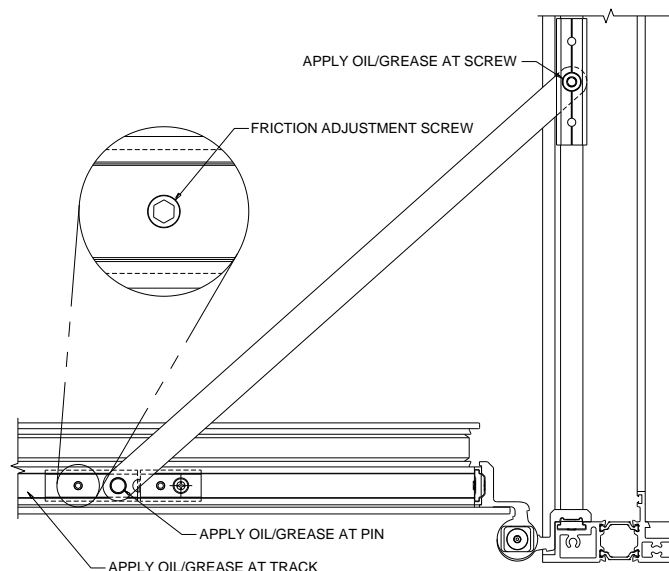

Figure 25
- Apply a light coat of oil as required on the at the arm pins and the leaf track (Figure 25), care must be taken when applying oil as it may stain other components of the door system.